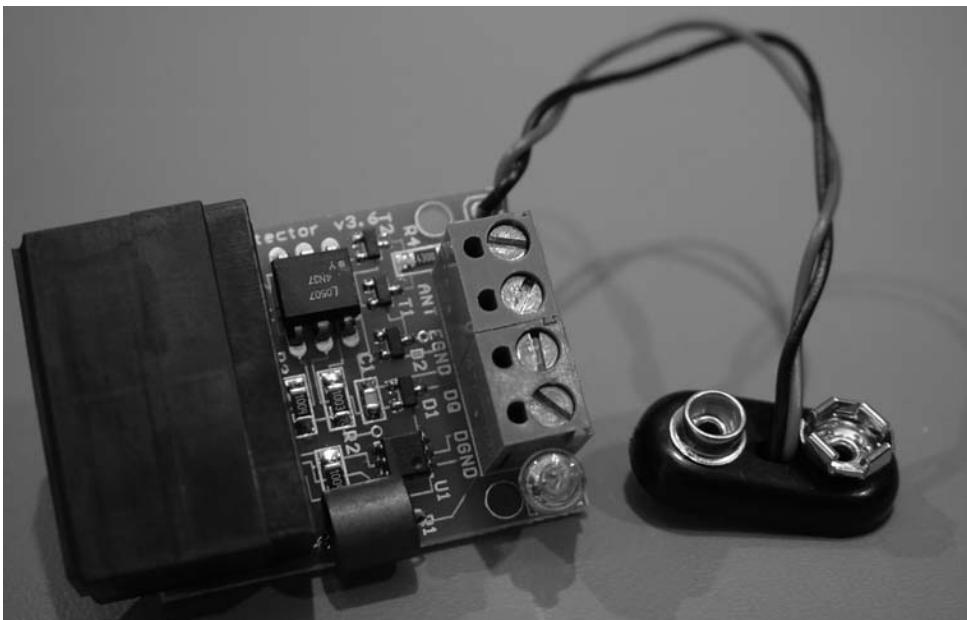

FIGURE 10-3: Completed Hobby-Boards module.
5. Inspect. Inspect each connection to make sure there are no shorted parts. Figure 10-3 shows the completed board.